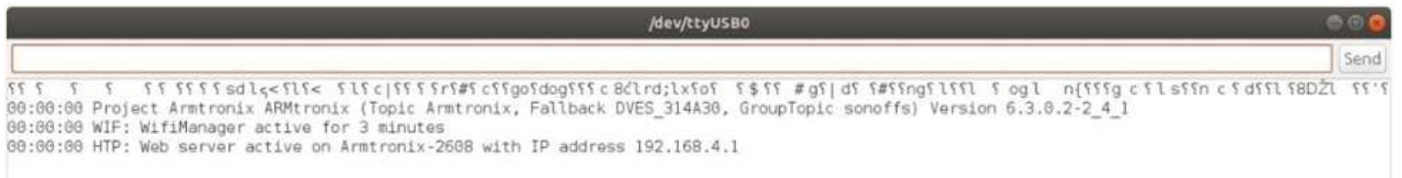

Figure 8: Device hosting Access point
10. Once the MAC ID is obtained connect to the Wifi through your Smartphone and you will get an IP address as shown in the figure 8 below: